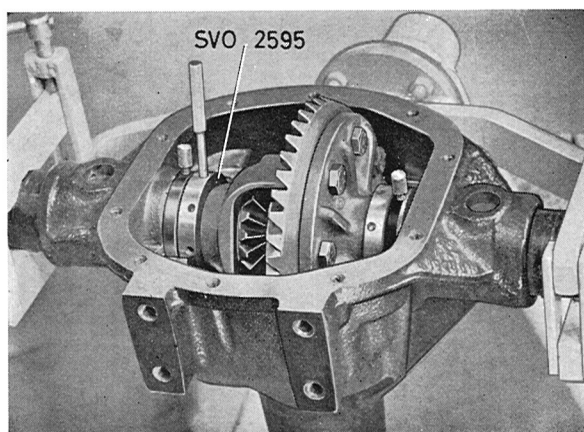

Fig. 4-175. Adjustment rings for differential
1. Lubricate the inside of the adjustment rings 2595 and install them on the differential carrier. The ring with the black-oxidized adjustment ring should be placed on the ring gear side. Also lubricate the bearing location in the carrier. Install the differential carrier and the adjustment rings in the final drive housing, see Fig. 4-175.